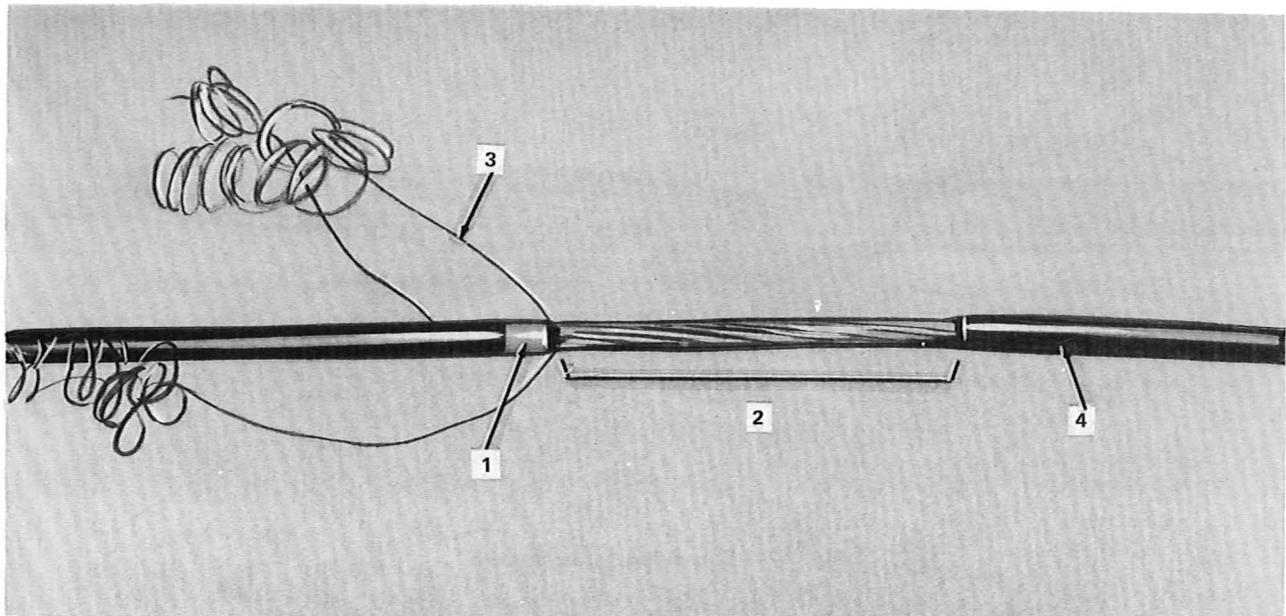

Fig. 16—Removing Outer Sheath
4.07 Prepare crossply sheath cable as outlined in Fig. 16 through 21.